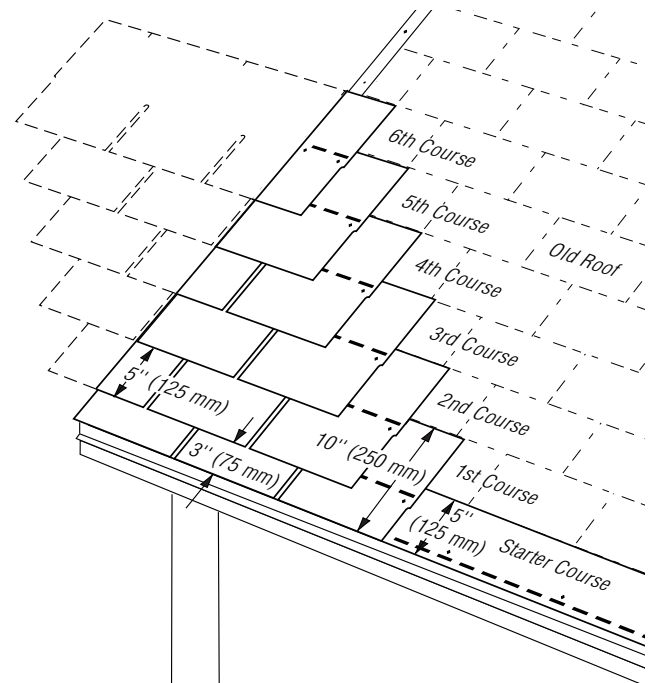

Figure 10-20: Six Off, Six Up, Nested.
2. Cut 6" off either side of the first starter shingle and install it over the first course of the old shingles, at the lower left corner (Figure 10-20).
1. The first course is made of 10" by 36" shingle strips made by cutting 2" off the bottom of the tabs of regular shingles (Figure 10-20).
1. Cut 6" off the left end of a full shingle. Butt the top edge of this 12" by 30" piece of shingle up against the bottom edge of the shingle in the old fourth course. Make the left edge align with the first-course left edge (Figure 10-20).
2. Apply this 24" piece of shingle over the second course, leaving the 5" tabs of the second course exposed. The top edge of the new shingle in this course should butt up against the bottom of the fifth course of old shingles (Figure 10-20).